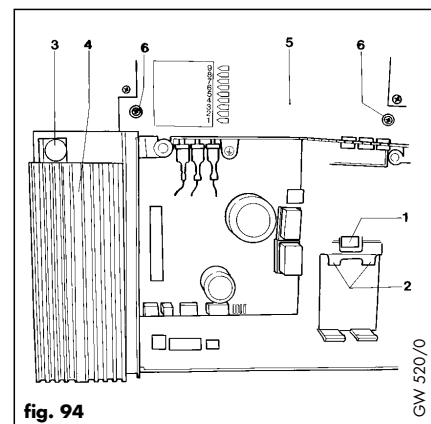

fig. 94
### 7.22.1 Replacement of boiler display board (fig. 94)
- Remove screw (3, fig. 94) and lift cover panel (4, fig. 94) off control box.
- Remove lower control box cover (5, fig. 94) by undoing two screws (6, fig. 94).
- Lift lower control box cover (5, fig. 94) clear.